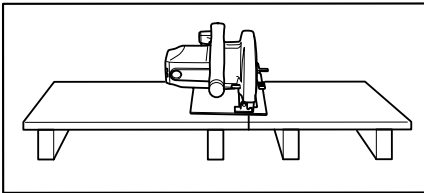

Fig. 1
8. **Support Large Panels (Fig. 1 & 2).** Large panels must be supported as shown in Fig. 1 to minimize the risk of pinching and kickback.
10. **Guard Against Kickback. (Fig. 1 & 3)** Kickback occurs when the saw stalls rapidly and is driven back towards the operator. Release switch immediately if blade binds or saw stalls. Keep blades sharp. Support large panels as shown in Fig. 1.